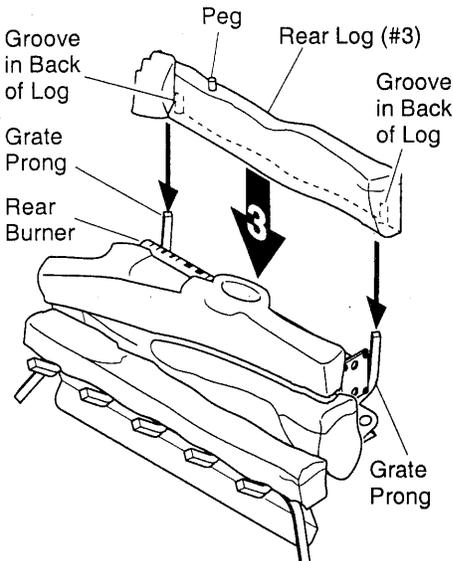

Figure 37 - Installing Rear Log (#3)
3. Slide the grooves in the back of the rear log (#3) against the rear grate prongs. Make sure the peg on the log is on top (see Figure 37).